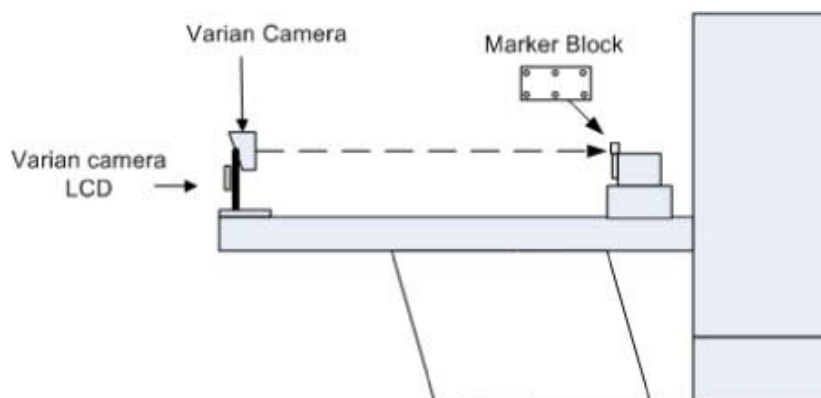
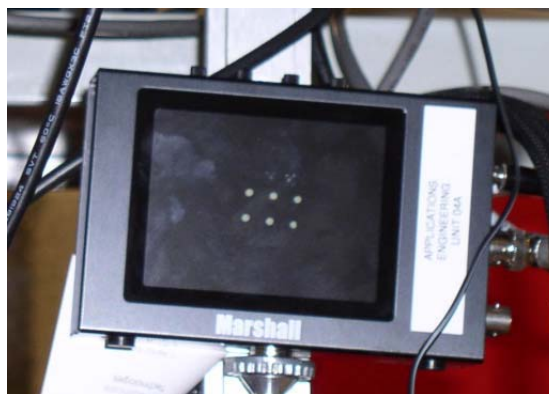

Figure 1-4 CAMERA AND PHANTOM SETUP
Figure 1-5 CAMERA DOTS IN LCD FOV
- 6.) Refer to Figure 1-4. Place the RPM Breathing Phantom on the table near the table head holder end of the gantry.
- 8.) Refer to Figure 1-4 and Figure 1-5. Adjust camera head and Breathing Phantom so the dots from the marker block appear in the camera's LCD display window.